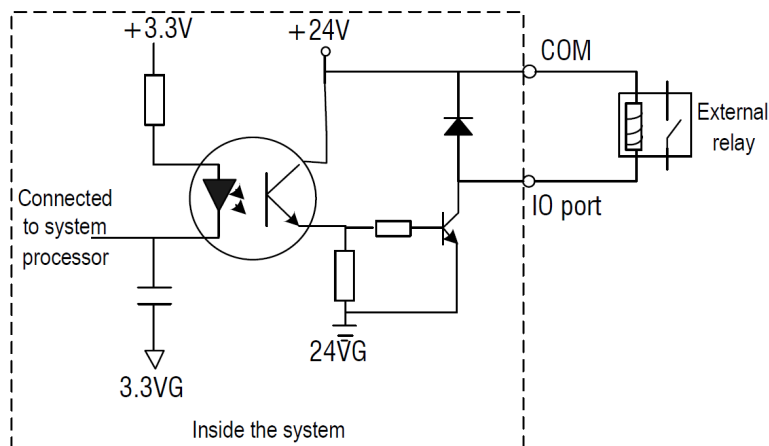

Figure 10.2 Output Interface Circuit Schematic Diagram
- ◆ Its internal circuit is shown in Figure 10.2.